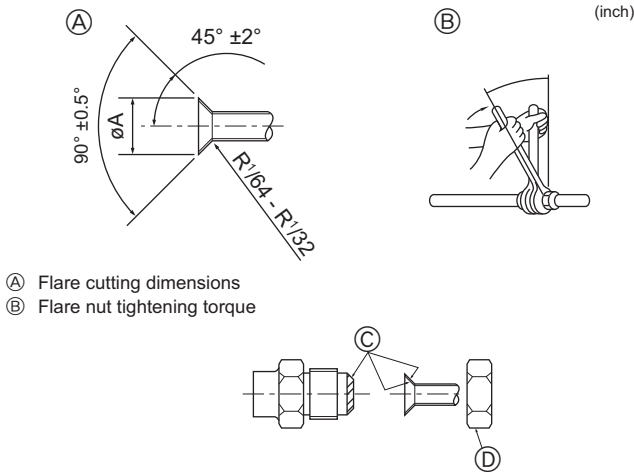

Fig. 4-2
(A) (Fig. 4-2) (mm [inch])
(B) (Fig. 4-2)
### 4.2. Connecting pipes (Fig. 4-2)